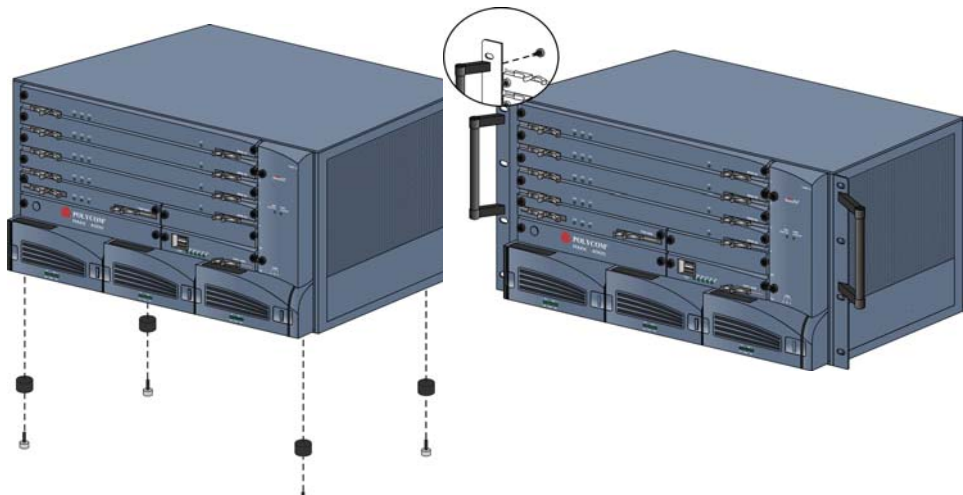

Figure 1-1 *Optional - Feet and handle removal*
- Optional - Depending on the rack installed in your site, you may need to remove the handles if they are attached to the RMX 4000. Unscrew the handles from the chassis as shown in Figure 1-1, *"Optional - Feet and handle removal"*.
- Optional - If the opening in the rack that is allocated to the RMX 4000 is exactly 6U, the feet must be removed from the RMX 4000 to install it in the rack. Unscrew the feet from the chassis as shown in Figure 1-1, *"Optional - Feet and handle removal"*.